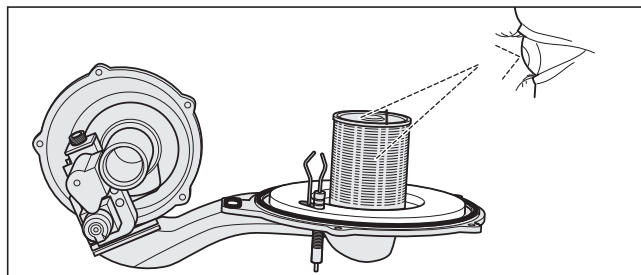

Fig. 7.5 Inspecting the burner
- The burner is maintenance-free and does not require cleaning. The burner must be replaced if its outer surface shows any signs of damage (fig. 7.5).